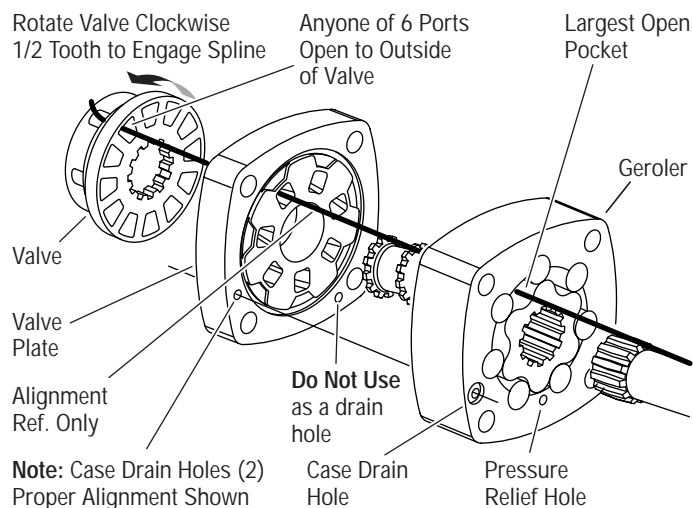

Figure 16 Timing Alignment
**Timing Step No. 1** — Locate largest open pocket in Geroler. Then mark location of pocket on outside edge of Geroler (see Figure 16).
**34** Align case drain hole and pressure relief hole in Geroler with case drain hole and pressure relief hole in bearing housing. Install Geroler on bearing housing (see Figure 16). Retain rollers in outer Geroler ring if they are loose.
37 Align case drain hole in valve plate with case drain hole in Geroler. Install valve plate (seal side toward Geroler) on Geroler as shown in Figure 16.
**Timing Step No. 2** — Locate slot opening in valve plate which is in line with largest open pocket of Geroler (see Figure 16).